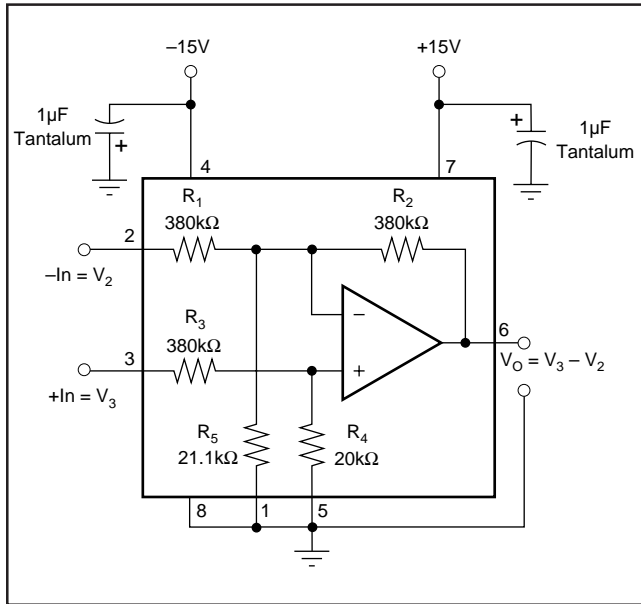

FIGURE 1. Basic Power and Signal Connections.
NOTES: (1) Connected as difference amplifier (see Figure 1). (2) Nonlinearity is the maximum peak deviation from the best-fit straight line as a percent of full-scale peak-to-peak output. (3) With zero source impedance (see discussion of common-mode rejection in Application Information section). (4) Includes effects of amplifier's input bias and offset currents. (5) Includes effects of amplifier's input current noise and thermal noise contribution of resistor network.
Figure 1 shows the basic connections required for operation. Applications with noisy or high impedance power supply lines may require decoupling capacitors close to the device pins. The output voltage is equal to the differential input voltage between pins 2 and 3. The common mode input voltage is rejected.